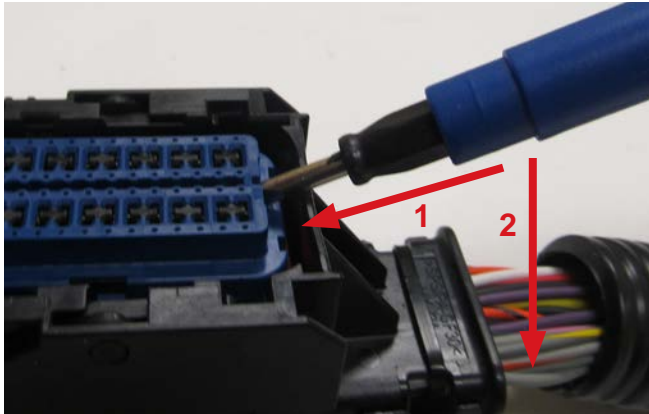

Figure 4
4. Insert a small flat blade screwdriver into the TPA service hole and pry up. Repeat for the opposite side. At this point the TPA should be at its pre-lock position. **Reference Figure 4.**